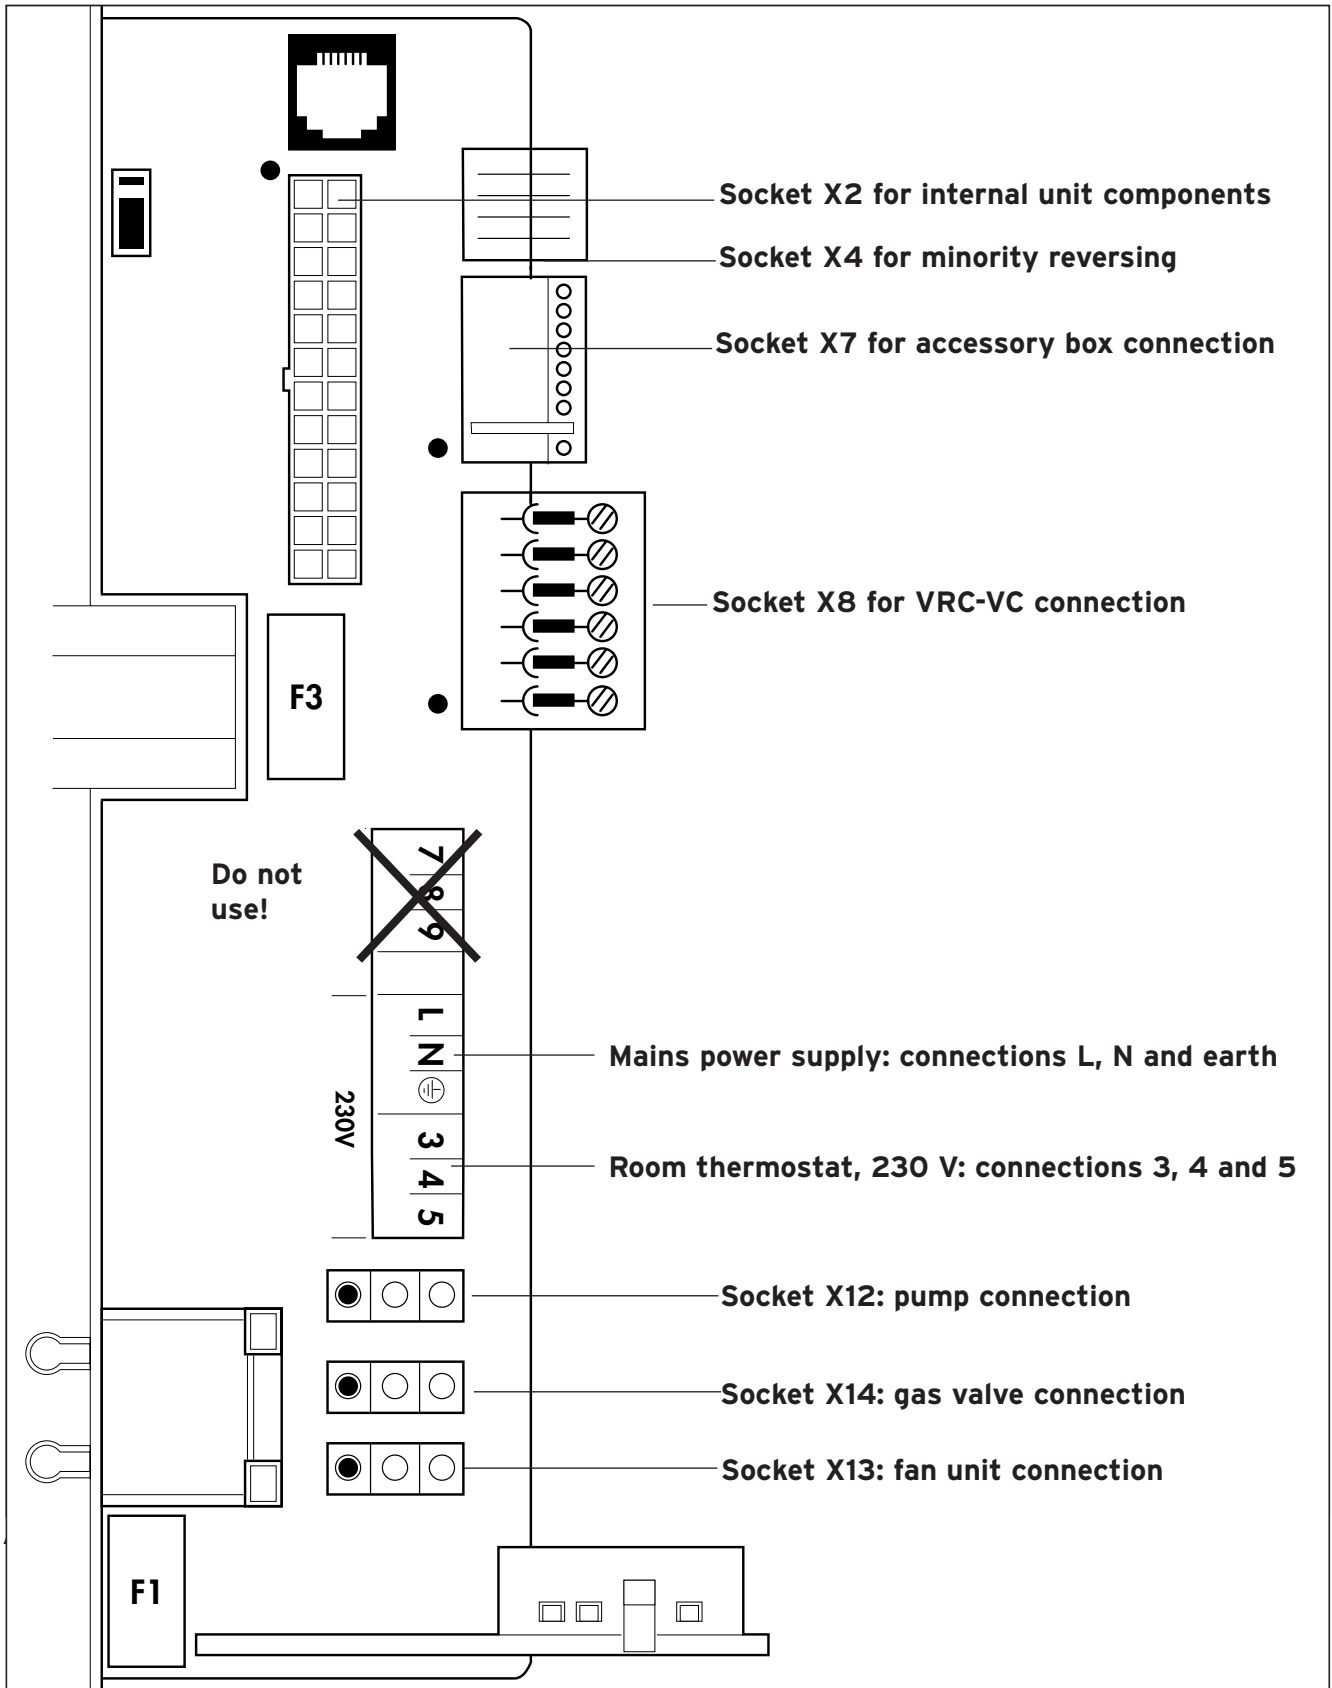

Fig. 5.11 Connection wiring
- Connect the power supply cord as follows (Fig. 5.11).